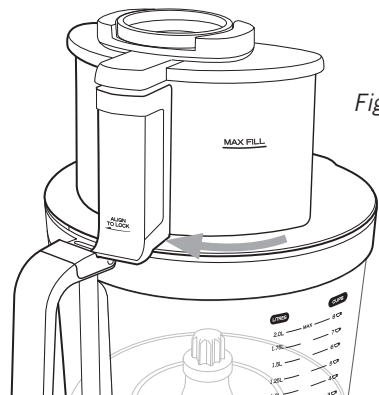

Fig 3
4. Position the lid onto the processing bowl. You will notice a solid grey line to the left of the holding lip on the lid, when placing the lid onto the bowl this arrow needs to align with the solid grey line on the handle of the bowl. To lock, turn the lid clockwise, as indicated by the graphics, on the top of the handle, see figure 3.
4. Fit the processing cover to the processing bowl, see figure 3 and place the food pusher in the feed chute.
4. Fit the processing cover to the processing bowl as previously shown in figure 3 and place the food pusher in the feed chute.
3. Fit the processing cover to the processing bowl as previously shown in figure 3 and place the food pusher in the feed tube.